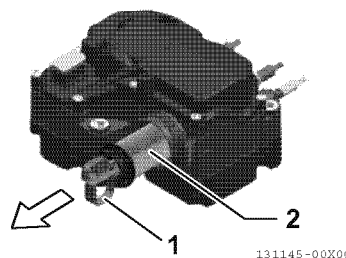

Fig.25-45
- 7 - Pull out the filter element tool (2, Fig.25-45) together with the filter element drawing-out tool (1, Fig.25-45). Do not use the SM housing as a support when pulling out the filter element. It may cause damage to the housing surface.